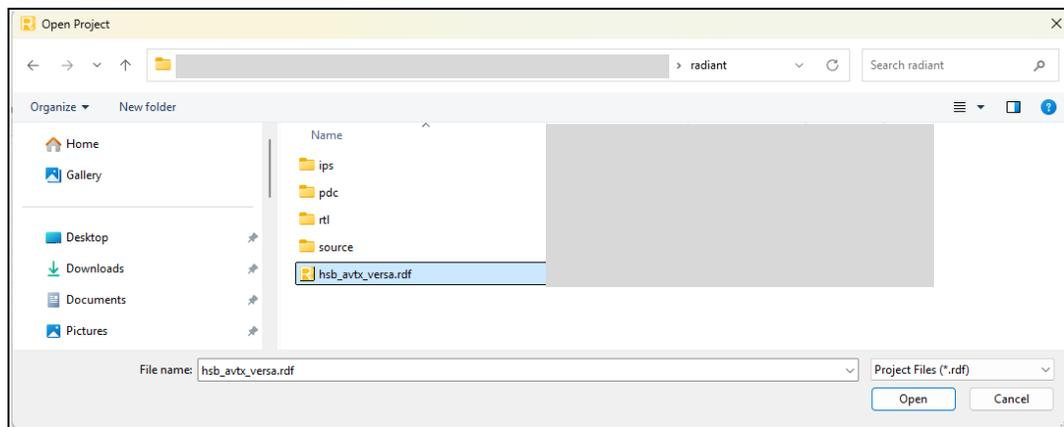

Figure 5.4. Open Project File
2. Click **File > Open Project**. From the project database, open the Lattice Radiant software project file (*hsb_avtx_versa.rdf*), as shown in Figure 5.4.